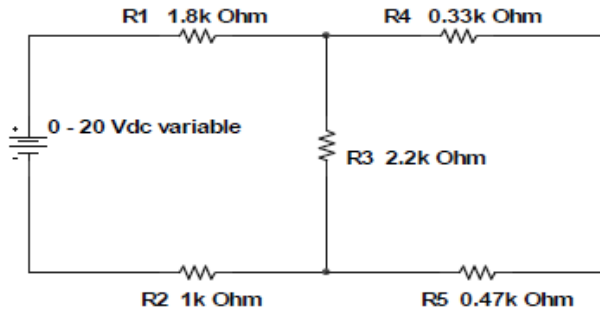

Figure 1
1. Connect the circuit as shown in Figure 1.